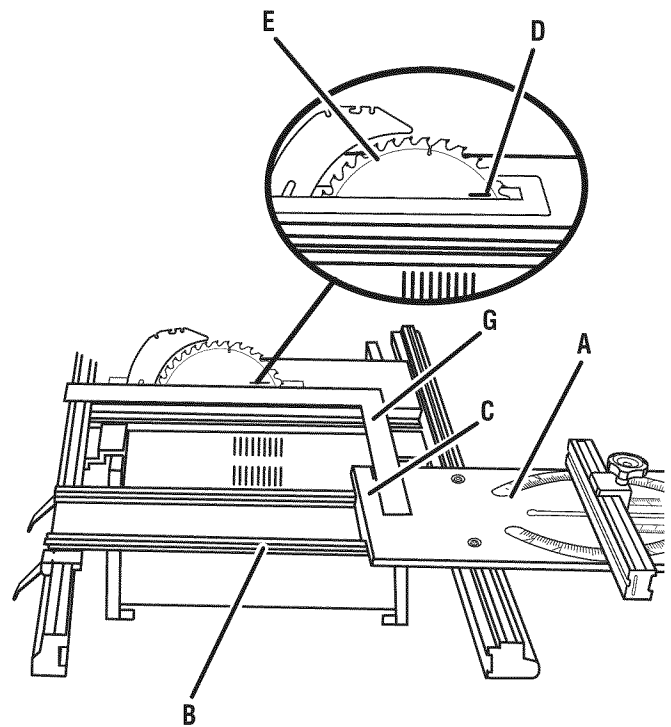

Fig. 37
See Figures 37 - 38.
- Slide miter table (A) to the front of miter base (B) as far as it will go. Place a reference mark (C) near the end of the miter table as shown in figure 37.